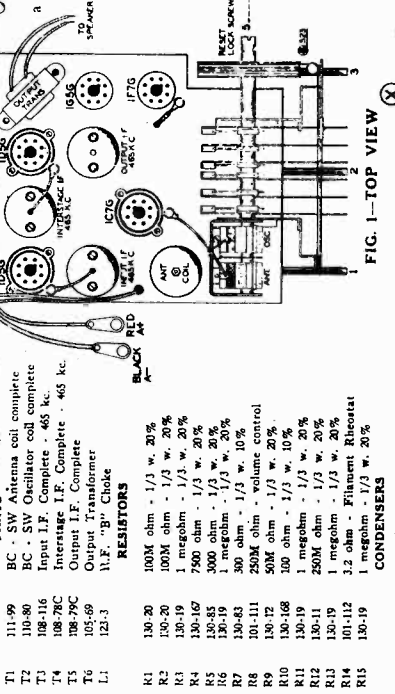

FIG. 1—TOP VIEW
- These I.F. transformers have two adjustments, both of which are accessible from the top of chassis (see Fig. 1 Top View).
- This adjustment is the trimmer mounted on the top of front section of the variable gang condenser (see Fig. 1, top view).